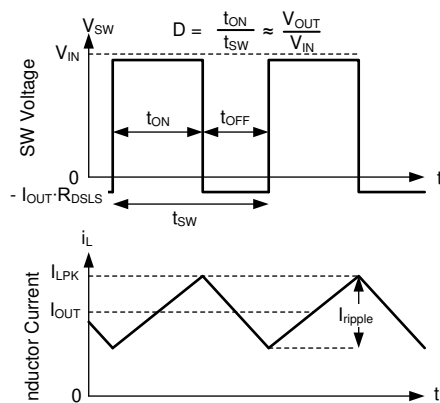

Figure 7-18. SW Voltage and Inductor Current Waveforms in Continuous Conduction Mode (CCM)
The following operating description of the LM644A2-Q1 refers to Functional Block Diagram and the waveforms in Figure 7-18. Both supply a regulated output voltage by turning on the internal high-side (HS) and low-side (LS) NMOS switches with varying duty cycle (D). During the HS switch on-time, the SW terminal voltage, V_{SW} , swings up to approximately V_{IN} , and the inductor current, i_L , increases with a linear slope. The HS switch is turned off by the control logic. During the HS switch off-time, t_{OFF} , the LS switch is turned on. Inductor current discharges through the LS switch, forcing V_{SW} to swing below ground by the voltage drop across the LS switch. The regulator loop adjusts the duty cycle to maintain a constant output voltage. D is defined by the on-time of the HS switch over the switching period: $D = T_{ON} / (T_{ON} + T_{OFF})$.